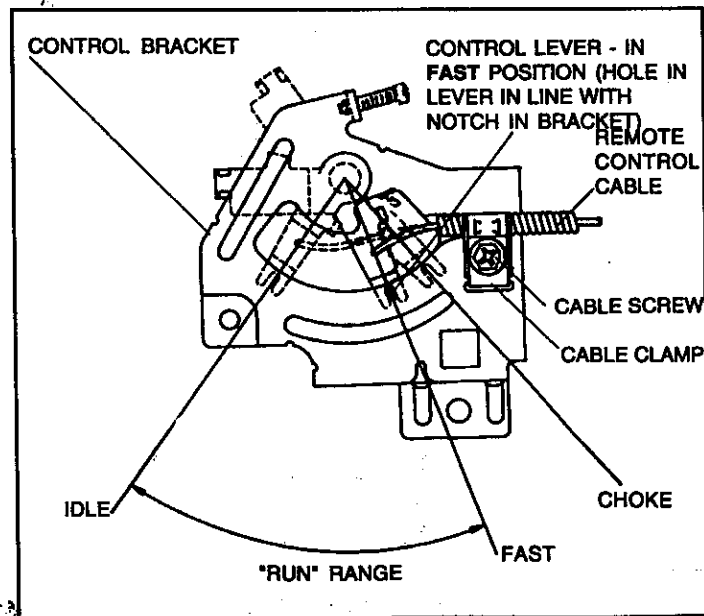

Figure 2
**NOTE:** If engine is remotely controlled, see equipment manufacturer's instructions for remote control positions which correspond to engine control positions in Figure 2.
A. **Move engine control lever (see Figure 2) or equipment control to CHOKE or START.**